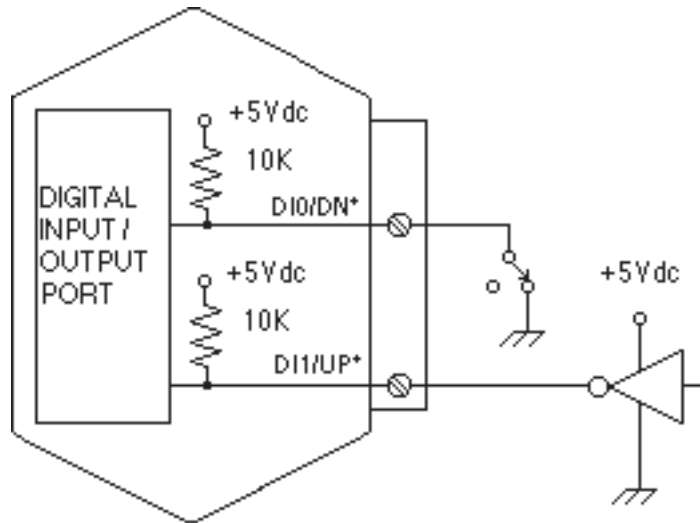

Figure 6.1 Digital Inputs.
The inputs are protected to voltages up to $\pm 30V$ and are normally pulled up to the logic "1" condition (see Figure 6.1). Digital inputs can be read with the Digital Input (DI) command. Voltage inputs less than 1V are read back as '0'. Signals greater than 3.5V are read as '1'.